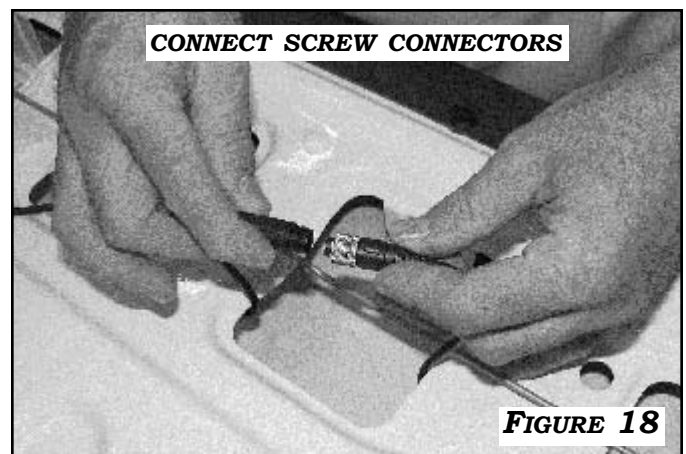

FIGURE 18
1. INSERT THE END OF THE TAILGATE EXTENSION HARNES WITH THE FEMALE SCREW CONNECTOR INTO THE PREVIOUSLY DRILLED HOLE IN THE SIDE OF THE TAILGATE NEAR THE BOTTOM SUPPORT CABLE PIVOT. CONNECT THE TAILGATE EXTENSION HARNES TO THE CAMERA HARNES BY MATCHING THE KEYS AND SCREWING THE CONNECTORS TOGETHER AS SHOWN IN FIGURE 18. SECURE THE HARNES TO THE INSIDE OF THE TAILGATE USING FOAM TAPE.